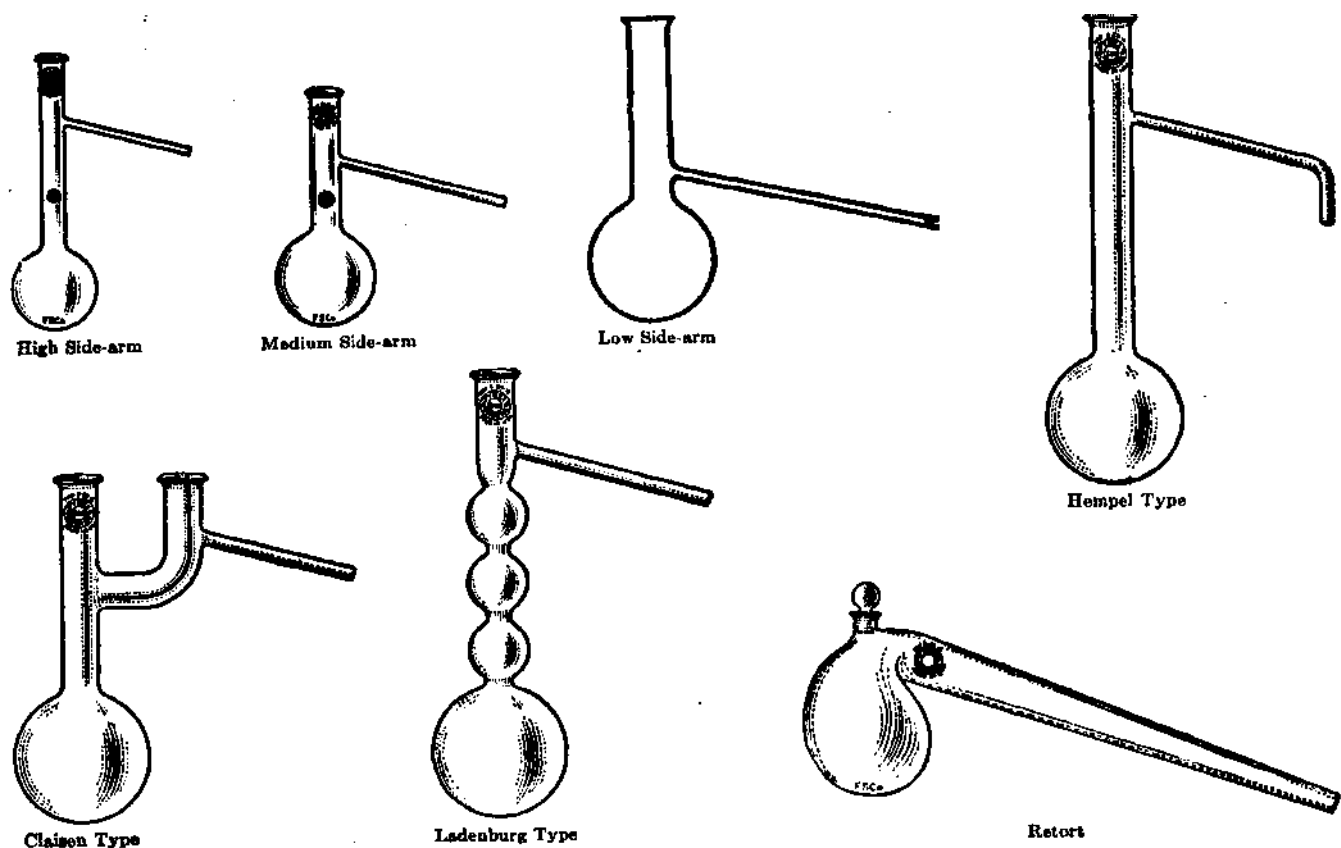

FIG. 10.—Flasks and Retort.
11. What is the advantage of the Ladenburg type of distilling flask shown in Fig. 10 over the plain types?
12. Where is the thermometer placed in the Claisen type flask shown in Fig. 10?
14. When would you use a retort (Fig. 10) in preference to a distilling flask?